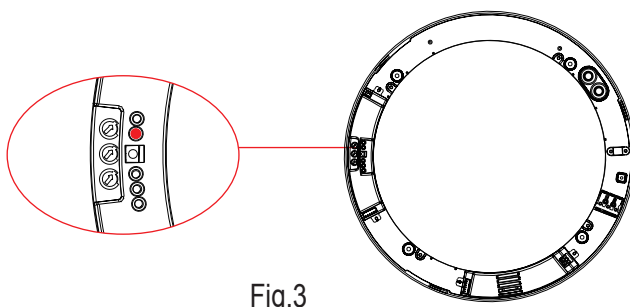

Fig.3
- 1、 There is an optical sensor inside the lamp (as Fig.3), during the installation, it should be turned to where the sunshine is sufficient. At the same time, it should avoid other light sources, which will influence the judgement of optical sensor to the ambient illumination.